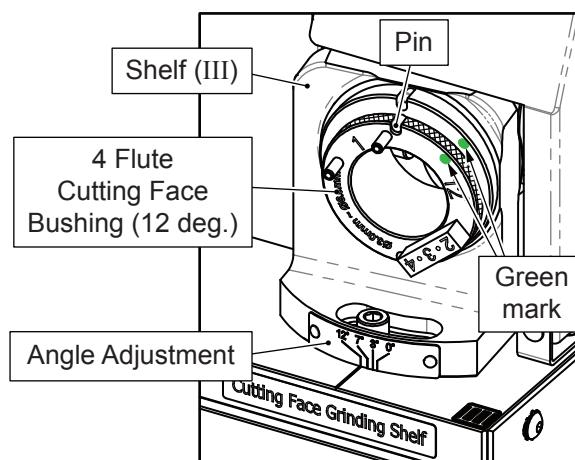
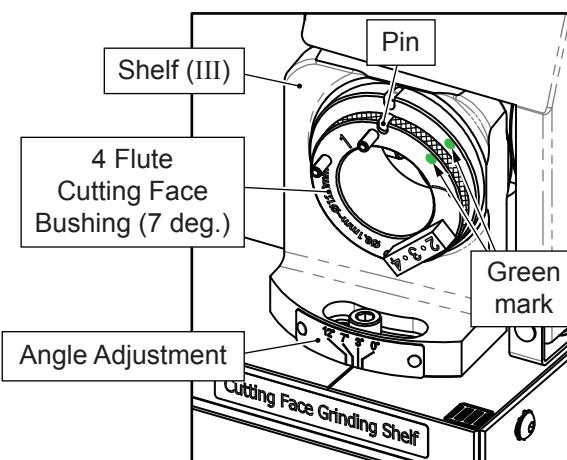

Fig. 11-3
Fig. 11-4
- The diameter from  $\Phi 3.0 - 8.0$  mm. (Fig. 11-3)
- ① Adjust Shelf (III) to **12°**.
- ② Insert 4 Flute Cutting Face Bushing (12 deg.) to Shelf (III), align the ● Green mark of the Bushing with the ● Green mark on the shelf, then insert it to the end.
- The diameter from  $\Phi 8.1 - 12.0$  mm. (Fig. 11-4)
- ① Adjust Shelf (III) to **7°**.
- ② Insert 4 Flute Cutting Face Bushing (7 deg.) to Shelf (III), align the ● Green mark of the Bushing with the ● Green mark on the shelf, then insert it to the end.